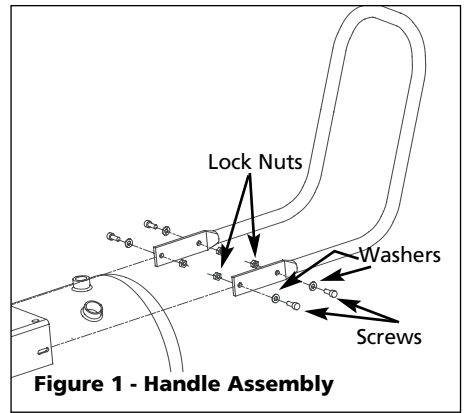

Figure 1 - Handle Assembly
**HANDLE ASSEMBLY** (Figure 1)
2. Assemble four (4) screws and washers (from parts package) through holes in mounting plate and handle. Secure with lock nuts.